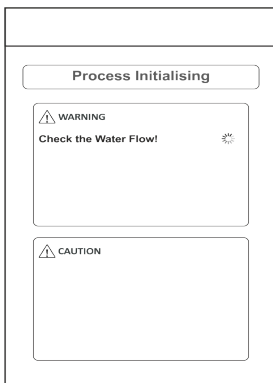

Fig. No. 29.2
d. **Process Initialization** (Ref. Fig. No. 29.2 & 29.3)